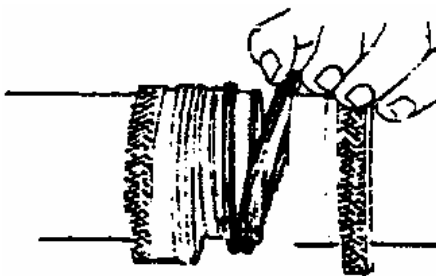

Figure 13. Installing O-Ring Seals
- c. Install O-ring seal on each ferrule (Figure 13). Lubricate O-ring before installing.